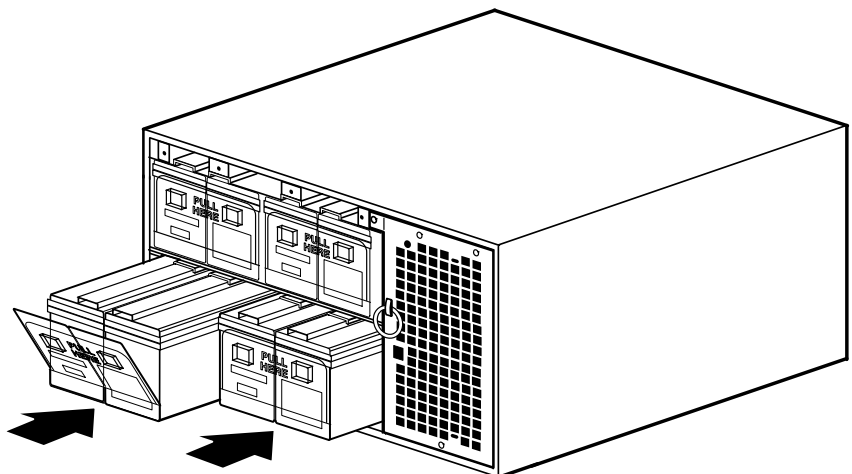

Figure 84. Installing the UPS Battery Trays
5. Slide the new battery trays into the cabinet (see Figure 84). Verify that each tray is properly aligned before sliding the tray in.